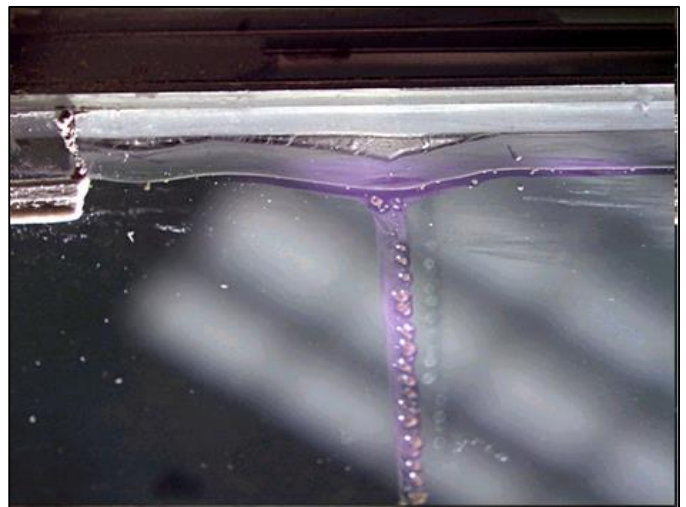

Figure IG15-01, Close up of liquid inside due to incompatible chemical attack of the PIB primary seal.
- Degradation of the PIB, resulting in formation of a clear viscous liquid running down the airspace surface of the glass (See figure IG15-01)
Organic plasticizers can attack the PIB primary seal of the IG unit. Symptoms of this attack, include slumping of the PIB material into the airspace, spacer read-through, and in severe cases separation of the PIB resulting in clear thick liquid inside the IG unit (see Figure IG15-01). Most organic plasticizers are not volatile and require direct contact between the material containing the plasticizer and the IG edge seal for migration to occur.